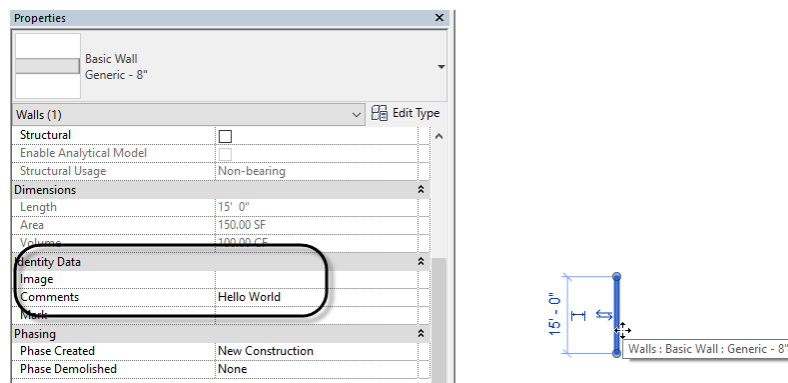

FIGURE 5
7. Select the wall onscreen in Revit and then on the Properties palette, look at the Comments field (see Figure 5).